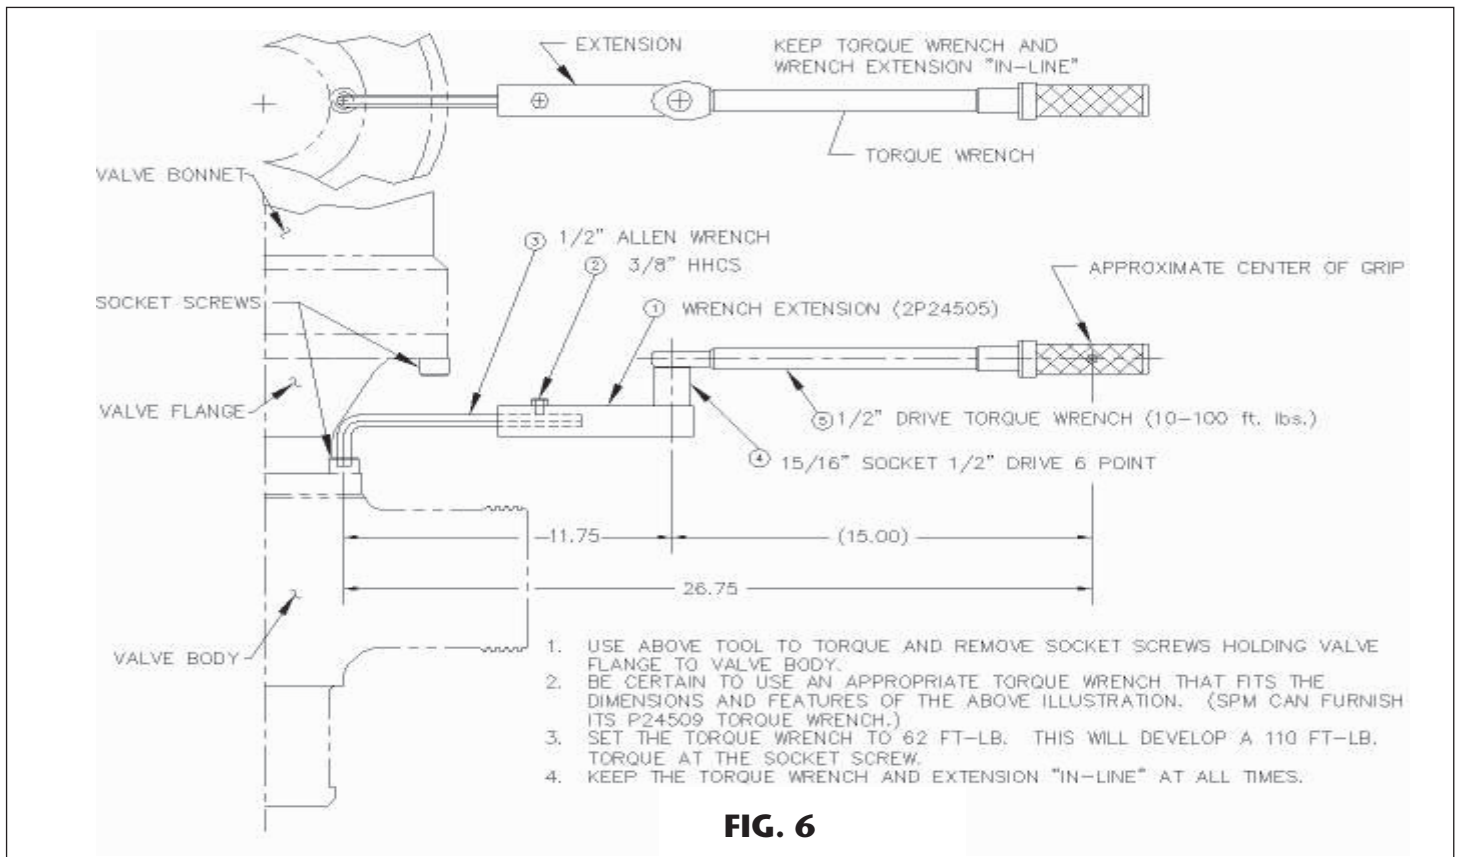

FIG. 6
- Special Torque Tool (See Fig. 6)
1. Install a complete new main seal assembly (5) into the cartridge and fit over seal (29) into body (2). Slip nozzle into cartridge over main seal assembly.
2. Install wear sleeve (14) over seal (22) with backup ring (24) onto cylinder rod (4). Attach rod cap with 1/4" socket screws (30). Safety wire socket screws.
3. Install sleeve (11) over seal (28) onto rod (4). Install piston (8) over seal (28) onto rod (4). Attach jam nuts (23) to rod (4) with blue thread lock. Install seal (25) onto piston (8).
4. Install seals (26) (31) (27) & (20) into flange (1).
5. Install rod and piston assembly into flange (1). Install entire package into body (2). Be certain that wear sleeve (14) passes fully through main seal assembly (5).
6. Install cylinder (3) onto flange (1) and tighten the ten 5/8" socket screws (32) to 60 ft.lb (lubricated).
7. Tighten the eight 5/8" socket screws (32) that hold the flange (1) to the body (2). Tighten evenly to 110 ft-lb (lubricated). Use special torque tool (See Fig. 6).